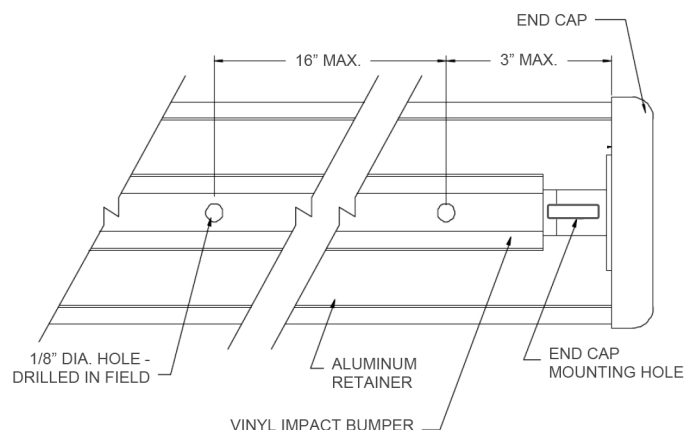

Figure 1
STEP 2. Select a section of the aluminum retainer. Mark the locations for the anchor holes on the retainer, centering the anchor holes along the retainer is recommended. Anchors are spaced 16\" O.C. MAXIMUM with an anchor a maximum of 3\" from the end of the retainer (see Figure 1). Drill the anchor holes through the retainer at the marked locations. Repeat this step for each retainer.